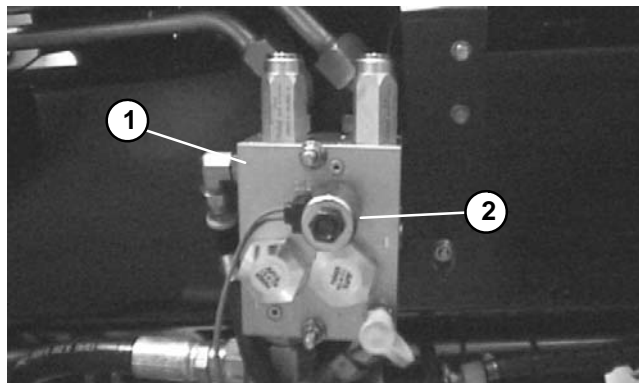

Figure 27
1. Make sure engine is off. Disconnect hydraulic valve solenoid electrical connector (Fig. 27).